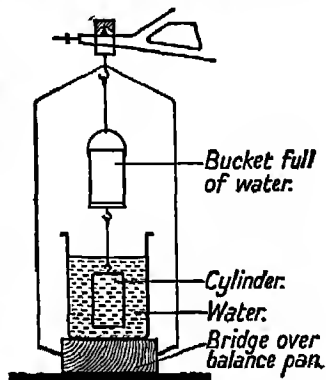

FIG. 190. The bucket and cylinder experiment.
**Expt. 242. To find the upward vertical thrust when a body is totally immersed in water (Bucket and Cylinder experiment).** Fig. 190. A metal cylinder just fits into a cylindrical bucket. The cylinder is suspended from the bucket which is itself suspended from the balance, as shown in the figure. Both are weighed in air. A beaker of water standing on a bridge is so placed that the cylinder is immersed in the water. The two sides no longer balance. Water is poured into the bucket until it is full. This restores the balance.